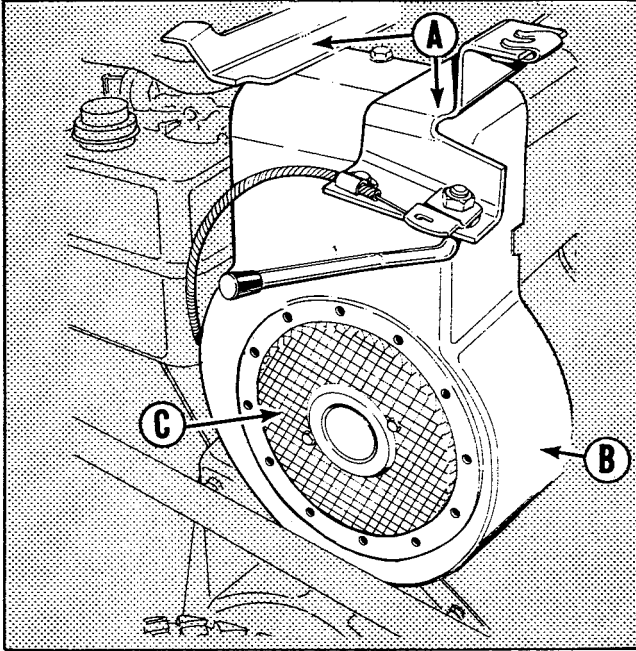

FIGURE 1
3. Remove the hood cover bracket (A) engine cover (B), and flywheel screen (C) (See Figure 1). The hood cover brackets are secured by two capscrews each, the engine cover by three capscrews (two at the bottom of the cover and one at the top) and the flywheel screen by two self-tapping screws.